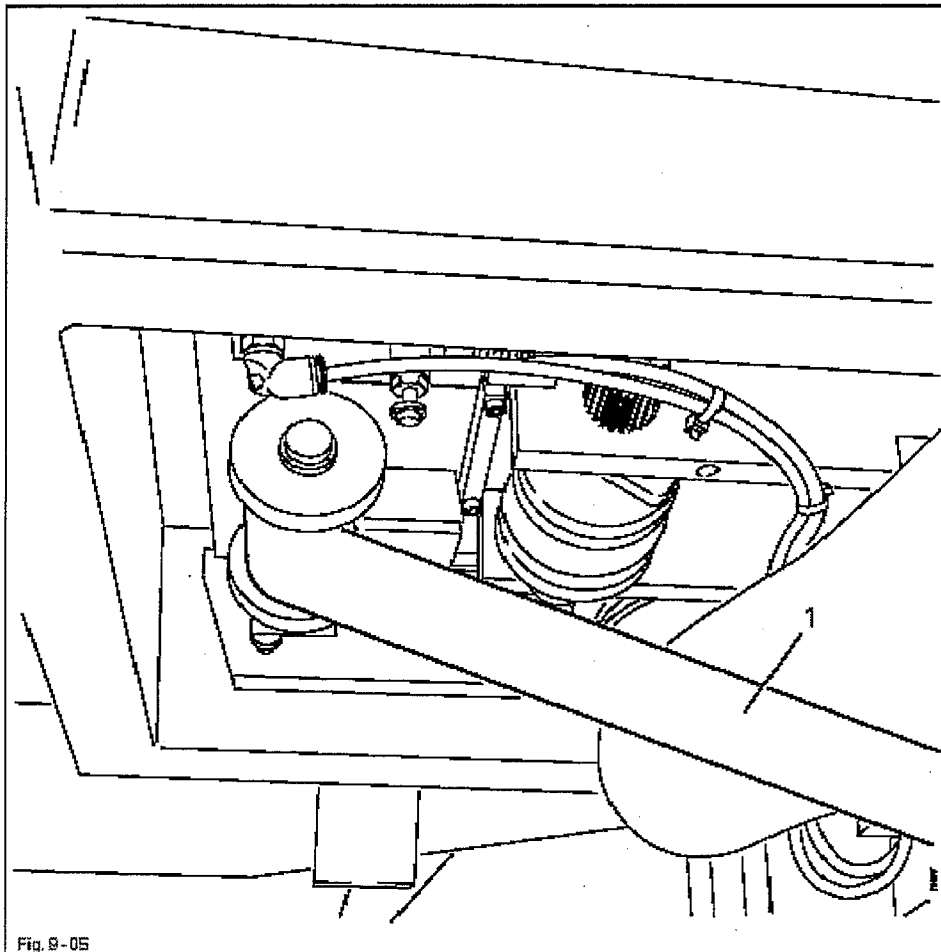

Fig. 9-05
- Insert tape fleece band as shown in figure 9-05.